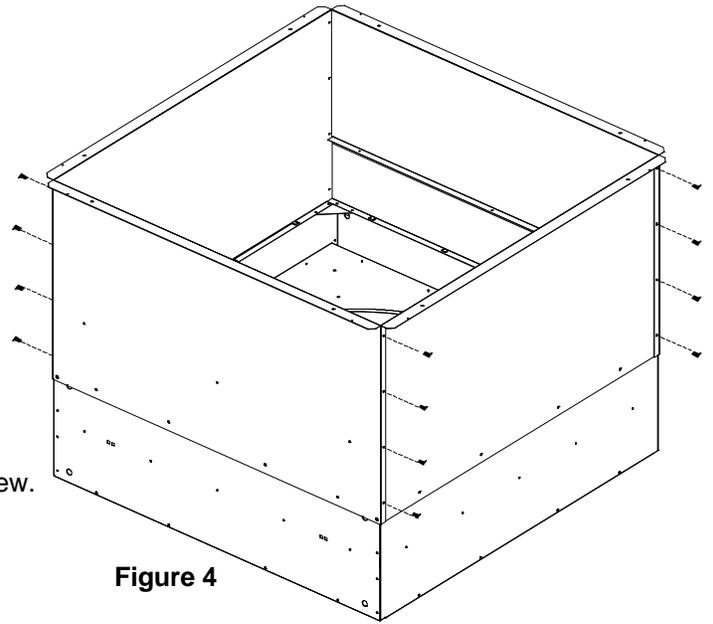

Figure 4
5. Connect sides with 1/4 x 3/8 inch bolts provided. (See **Figure 4**)